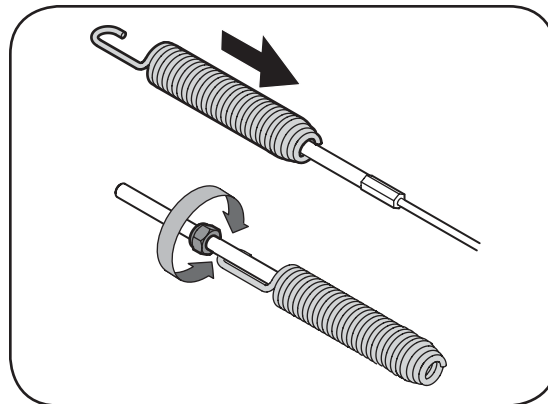

Figure 3-12
- Loosen the nylock nut on the drive control cable and unthread the cable one full turn. See Figure 3-12.
- Push the cable coupler through the end of the spring to expose the lock nut. See Figure 3-12.